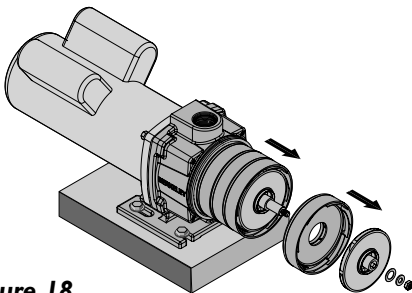

Figure 18
7. Remove the motor canopy, hold the motor shaft with a 7/16" open end wrench, and remove the nut and two washers (Key Nos. 13, 12, 11) from the end of the shaft. See Figure 18.
8. Slide the impellers and diffusers (Key Nos. 10, 9) off of the shaft (Figure 18).